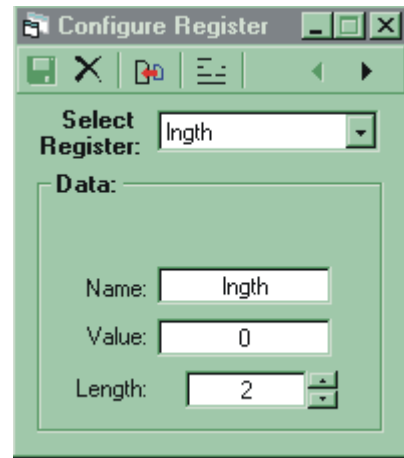

Figure 4.24: Screen 1 Length Register Setup
- 2] In the Configure Register dialog (figure 4.24), type “lngh” in the “Name” box.